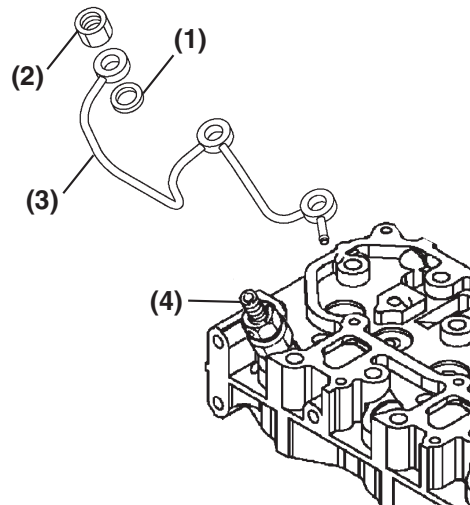

Figure 7-6
3. Remove all fuel return line nuts (Figure 7-6, (2)) from the injectors (Figure 7-6, (4)).
5. Carefully remove the fuel return line assembly (**Figure 7-6, (3)**).
6. Remove and discard the copper gasket (**Figure 7-6, (1)**) from each fuel injector.